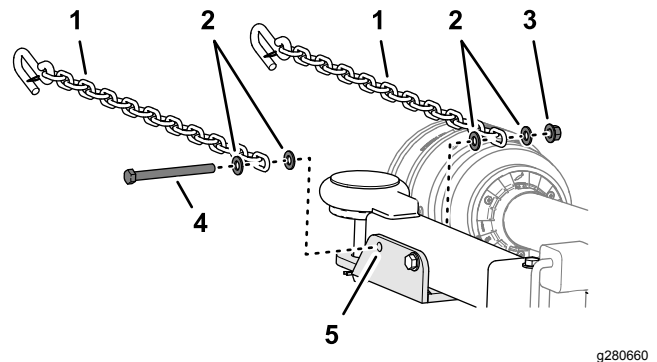

Figure 2
- Assemble the 2 safety chains to the clevis (Figure 2) with the 2 capscrews (1/2 x 5-1/2 inches), 4 washers (1/2 inch), and the flange locknut.